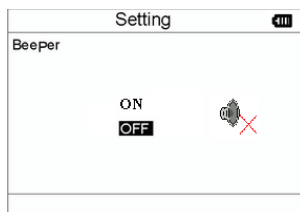

Figure 3-27 Beeper Setting
1. On system setting screen, select "Beeper" to enter beeper setting screen, as shown in Figure 3-27.